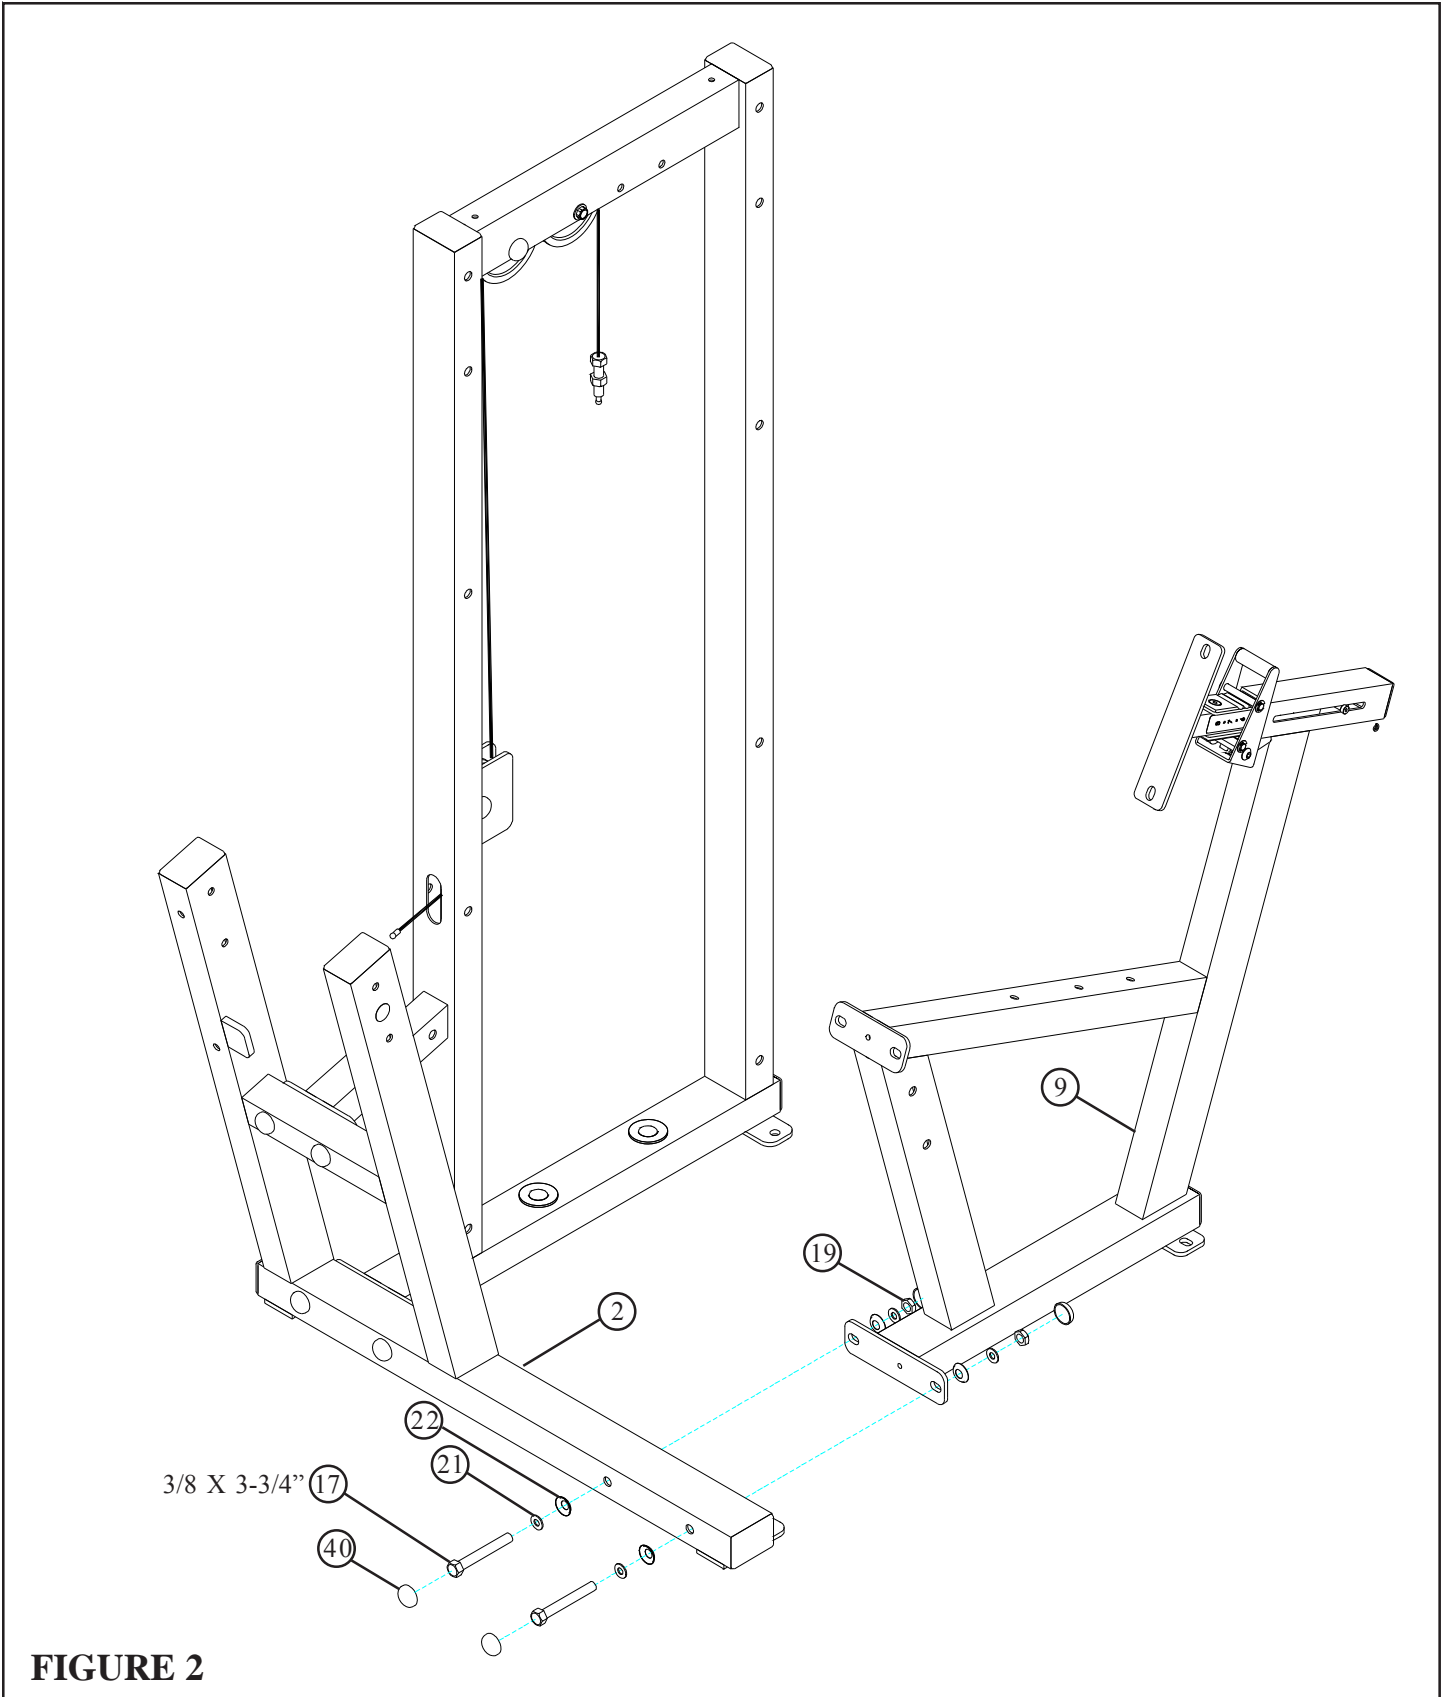

FIGURE 2
- **LOOSELY** assemble the SEAT FRAME (9) to the PIVOT ARM SUPPORT (2) using four RH CAPS (40), two 3/8 X 3-3/4" BOLTS (17), four 3/8" SAE WASHERS (21), four 3/8" RH WASHERS (22), and two 3/8" LOW HEIGHT LOCK NUTS (19) as shown in FIGURE 2.